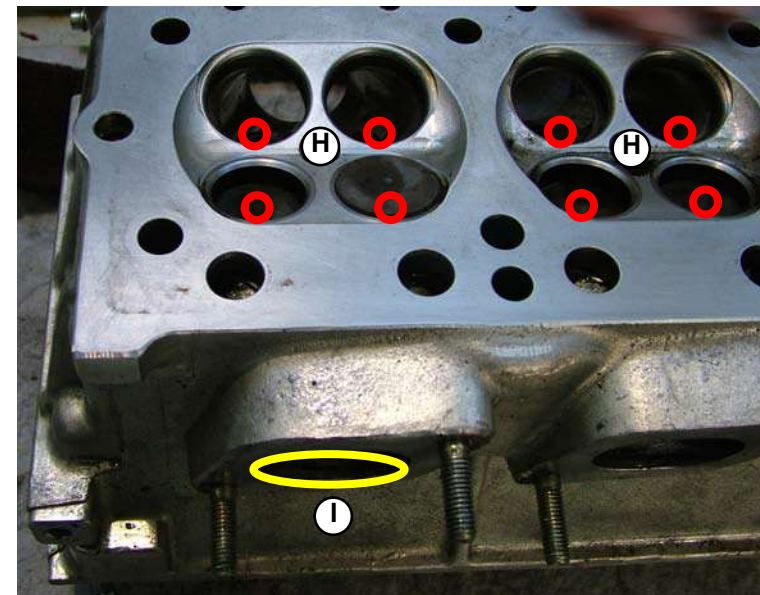

Fig.7
- Position all the valves in their housings (**H-Fig.7**) and lubricate with a drop of oil.
- Position the pad of the seal test machine on the mouthpiece (**I-Fig.7**).